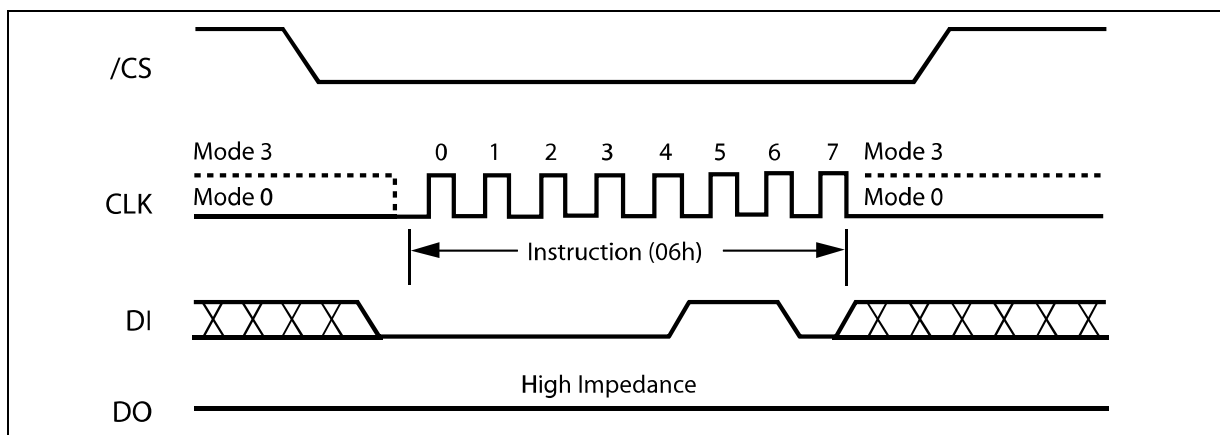

Figure 4. Write Enable Instruction
Instructions vary in length from a single byte to several bytes and may be followed by address bytes, data bytes, dummy bytes (don't care), and in some cases, a combination. Instructions are completed with the rising edge of edge /CS. Clock relative timing diagrams for each instruction are included in figures 4 through 39. All read instructions can be completed after any clocked bit. However, all instructions that Write, Program or Erase must complete on a byte boundary (/CS driven high after a full 8-bits have been clocked) otherwise the instruction will be ignored. This feature further protects the device from inadvertent writes. Additionally, while the memory is being programmed or erased, or when the Status Register is being written, all instructions except for Read Status Register will be ignored until the program or erase cycle has completed.
The Write Enable instruction (Figure 4) sets the Write Enable Latch (WEL) bit in the Status Register to a 1. The WEL bit must be set prior to every Page Program, Quad Page Program, Sector Erase, Block Erase, Chip Erase, Write Status Register and Erase/Program Security Registers instruction. The Write Enable instruction is entered by driving /CS low, shifting the instruction code "06h" into the Data Input (DI) pin on the rising edge of CLK, and then driving /CS high.